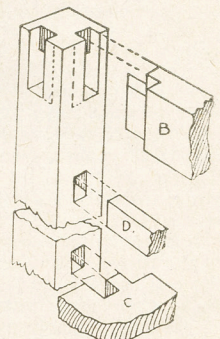
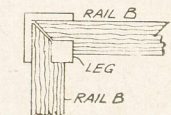

Fig. 4—Framing joints
Fig. 5—Corner joints
The first part to make is the frame for taking the structure. Make this from  $\frac{3}{8}$ in. by  $\frac{1}{2}$ in. wood and  $3\frac{1}{2}$ ins. long, and round the ends off as shown in Fig. 2. Two cross bearers are needed  $1\frac{1}{2}$ ins. in length from  $\frac{1}{2}$ in. by  $\frac{1}{2}$ in. material. Along the centre is another bar at least  $\frac{3}{4}$ in. wide to take the sump heads as shown in Fig. 5, and also to allow the wheels to pivot on the front axle.
In making the table you will be greatly helped by the details given at Figs. 2 to 7. These clearly show the method of construction, and also give the principal dimensions. Figs. 2 and 3 show two side views of the table; Fig. 4 shows the method of framing the parts together; Fig. 5 explains the
In making the table the first operation will be to plane up the legs and the cross rails, and to frame them together. The side rails are mortised and tenoned into the legs, as shown in Figs. 4 and 5, and the mortises and tenons should be set out with the marking gauge and try square or a set square.
The mortises are cut from each side of the legs until they meet in the middle, and the ends of the tenons must be mitred to meet in the mortises, as shown in the plan at Fig. 5.
The shelf (C) should next be framed into the legs; it is notched over the legs, and is stub-tenoned into them, as shown at Fig. 4. The tenons which are formed at the ends of the shelf are ¾in. long by ¾in. wide, and care must be taken to cut these tenons so they will be in a line with the small rails which are framed between the shelf, the side rails and the legs, as given in the detail in Fig. 4. The small rails at the sides are then framed together, and let into the shelf, top rails and the legs.